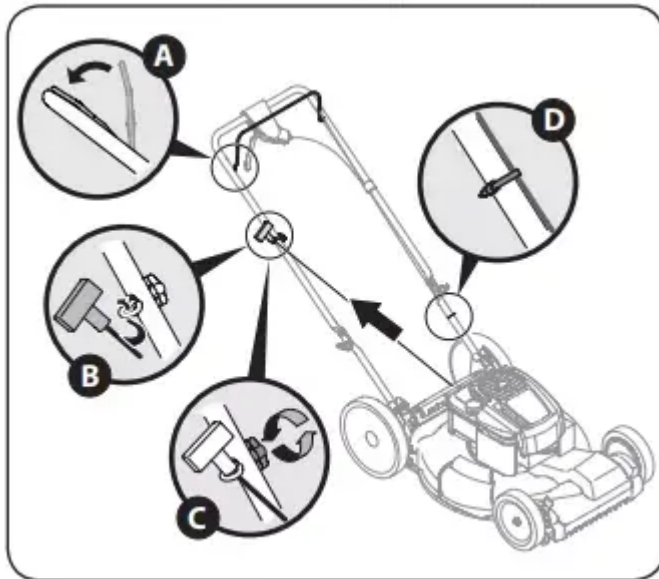

Figure 3-6
4. The rope guide is attached to the right side of the upper handle. Loosen the wing knob which secures the rope guide. See Fig. 3-6.
b. Slowly pull starter rope handle from engine and slip starter rope into the rope guide. See Fig. 3-6.